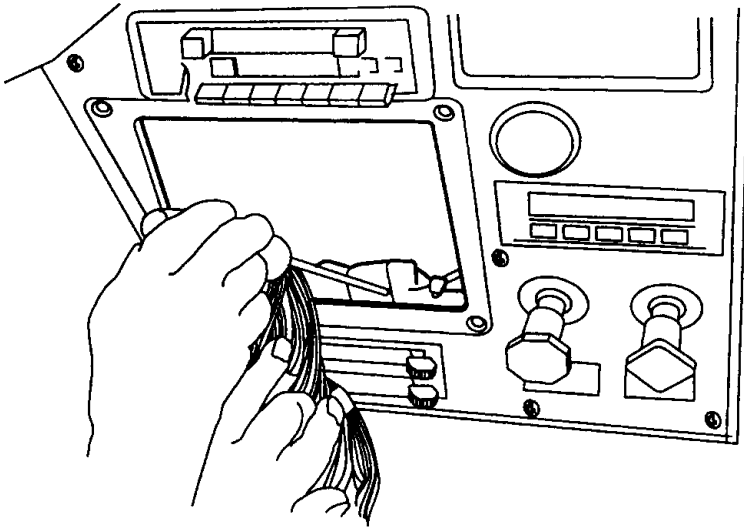

Figure 53 With Switch Panel Removed, Access Control Cable Adjuster
3. With dash switch panel removed, access cable adjuster through hole in dash (Figure 53).